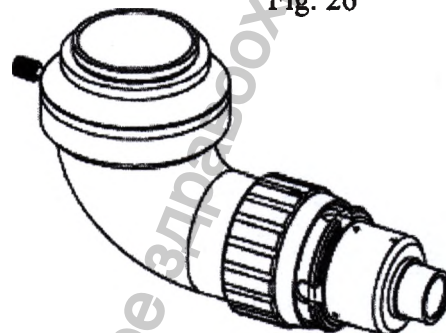

Fig. 27
13.6 Adapter for digital camera DSLR. (fig. 27)